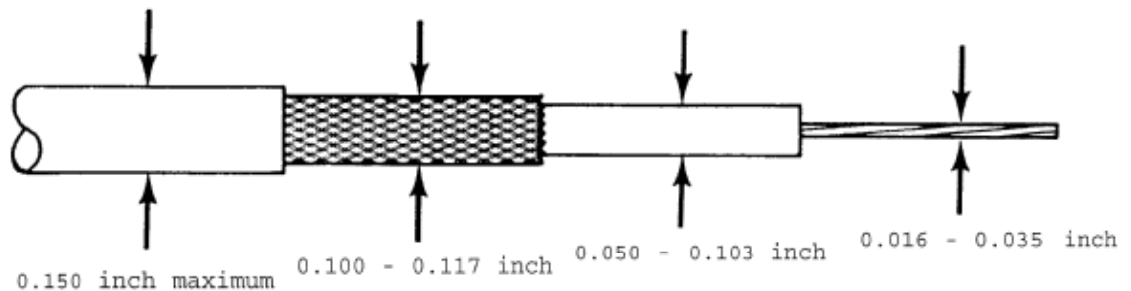

Figure 5-1. Coaxial Cable Size Accommodation: Conventional Stripping
D-602-0150 and D-602-0151 SolderTact contacts can be terminated to coaxial cable of the dimensions shown in Figures 5-1 and 5-2.
- Figure 5-1 applies to cables prepared using conventional stripping.